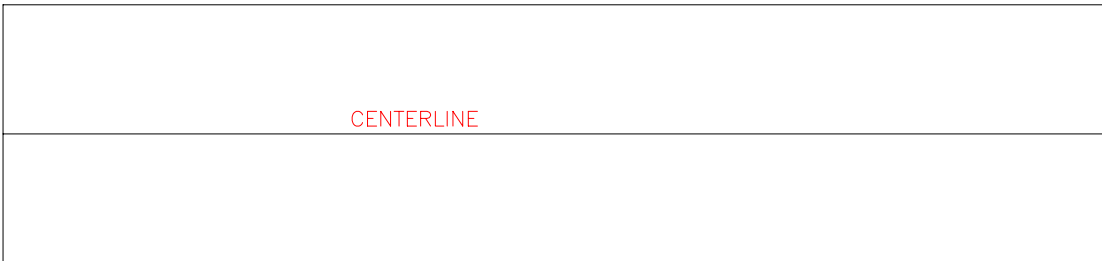

Figure 9.1.1
- 1) Using a chalk line or a long straight edge, draw a line down the center of the table. Figure 9.1.1.